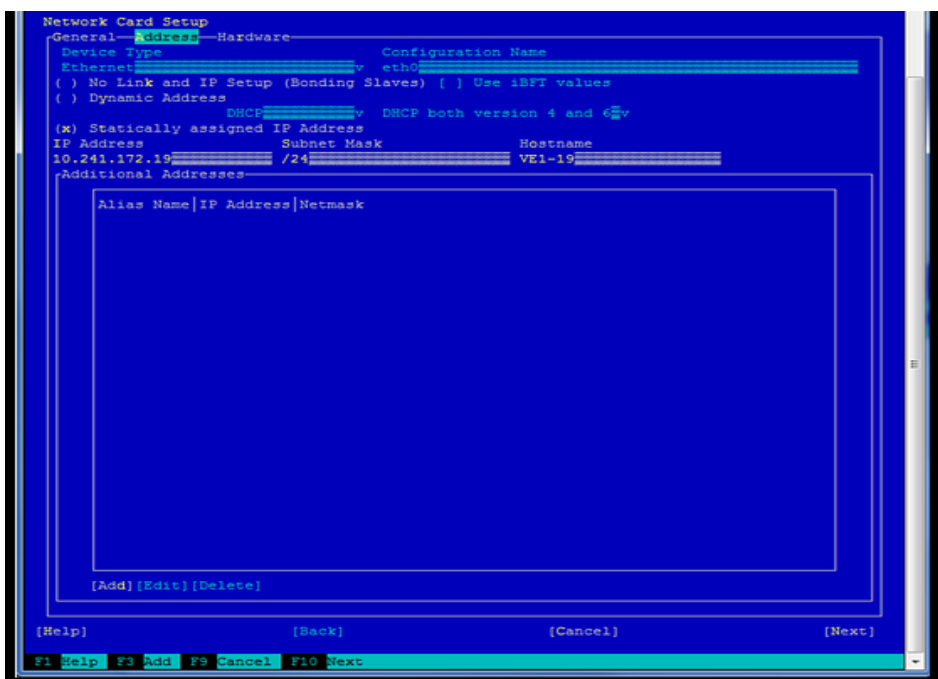

Figure 172 Network Card Setup screen
- a. Edit the IP address or host name (as shown in Figure 172 on page 130) by using the **Tab** key, **Alt-I**, or **F4**. When done, use **Tab**, **Alt-N**, or **F10** for **Next**.